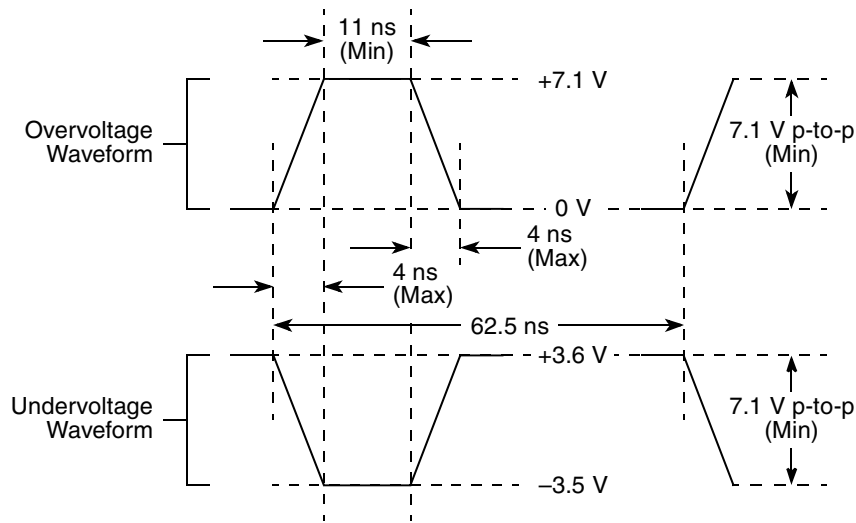

Figure 3. Maximum AC Waveforms on PCI interface for 3.3-V Signaling
6. OV_{IN} on the PCI interface may overshoot/undershoot according to the PCI Electrical Specification for 3.3-V operation, as shown in Figure 3.
Figure 3 shows the undershoot and overshoot voltage of the PCI interface of the MPC8560 for the 3.3-V signals, respectively.